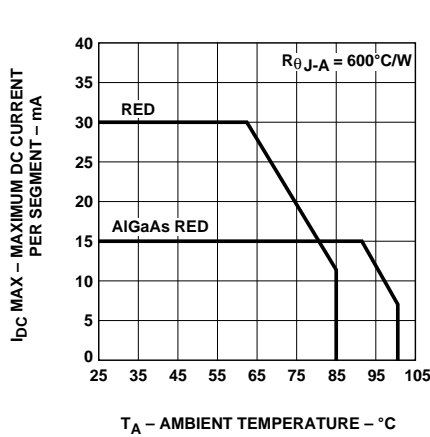

Figure 3. Maximum Allowable DC Current vs. Ambient Temperature. $T_{JMAX} = 100^{\circ}C$ for Red and $T_{JMAX} = 110^{\circ}C$ for AlGaAs Red.
- Derate maximum DC current for Red above $T_A = 62^\circ\text{C}$ at 0.79 mA/°C, and AlGaAs Red above $T_A = 91^\circ\text{C}$ at 0.8 mA/°C. See Figure 3.